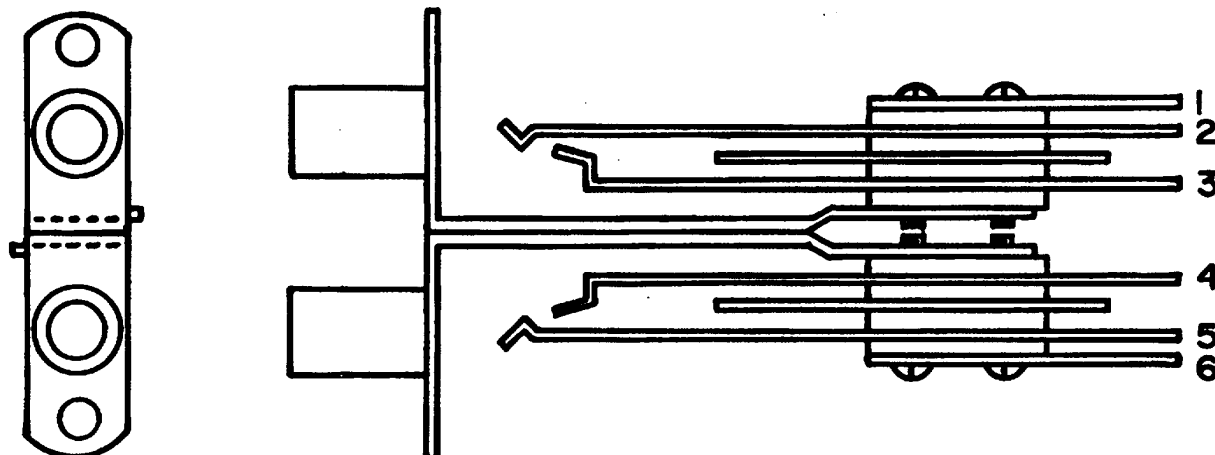

FIGURE 1
- REFER TO FIGURE 1 FOR PIN ASSIGNMENT OF BACK TO BACK VF JACKS. SOLDER ALL CONNECTIONS. SLEEVE ALL SOLDER CONNECTIONS WITH CLEAR SLEEVING (ITEM 3).